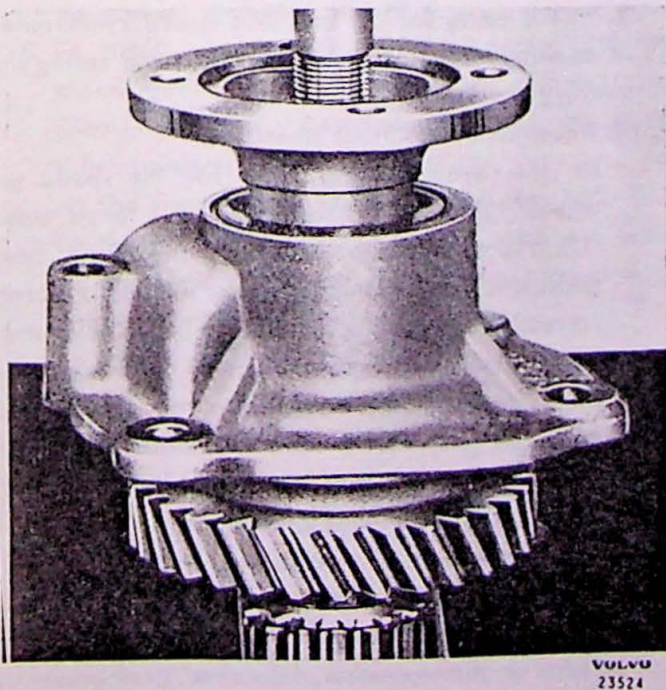

Fig. 3-19. Disassembling mainshaft, I
under 1st speed gear wheel (10). Press out the shaft with a drift, Fig. 3-19.